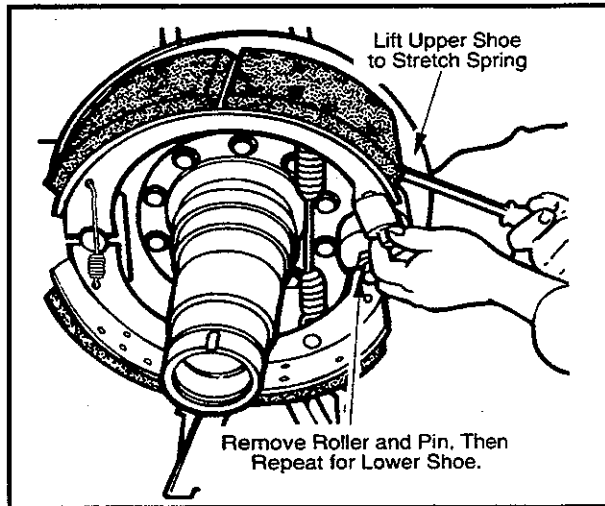

Figure 13—Remove Roller and Pin
5. Lift upper shoe to stretch return spring. (See Figure 13—Remove Roller and Pin.)